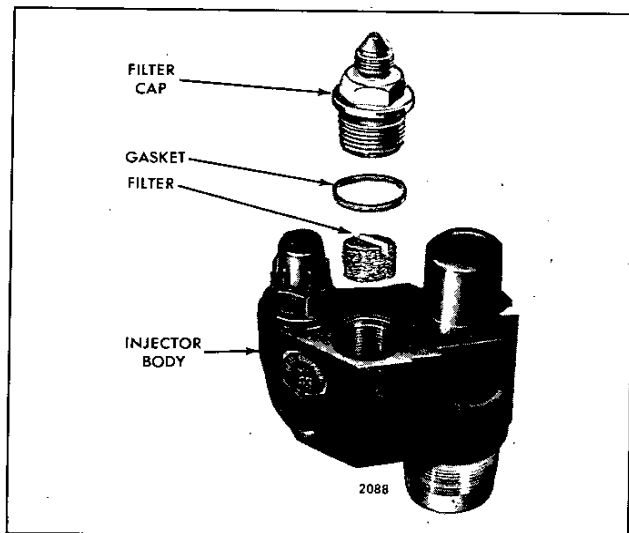

Fig. 26 – Details of Injector Filters and Caps and Their Relative Location
2. Insert new filter(s) in the top of the body (Fig. 26). The current production service filter (stainless steel wire mesh pellet) is installed dimple end down, slotted end up. The former service filter (fiberglass-filled nylon cone) was installed with the pointed (cone) end up.